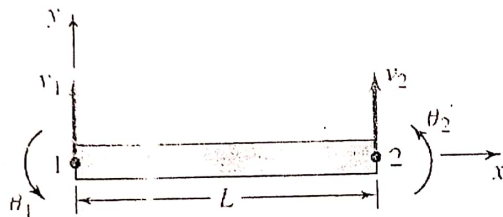

Figure 4: Beam element nodal displacements shown in a positive sense.
c. The nodal variables associated with a flexure element are as depicted in Figure 4 with the displacement function $v(x)$ to be discretized expressed as